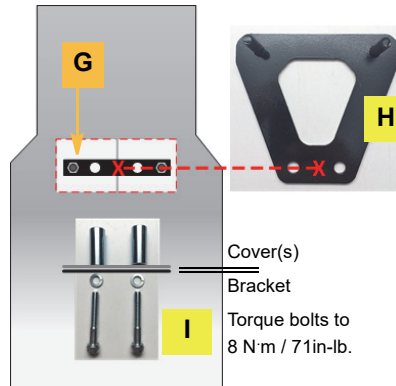

Figure 4c: Anti-rotation bracket installation
- e. Using hardware **I**, attach **H** to the saddle of the saddle clamp **G** inside the covers. Tighten the bolts to **8 N·m (71 in-lb)** (Figure 4c).